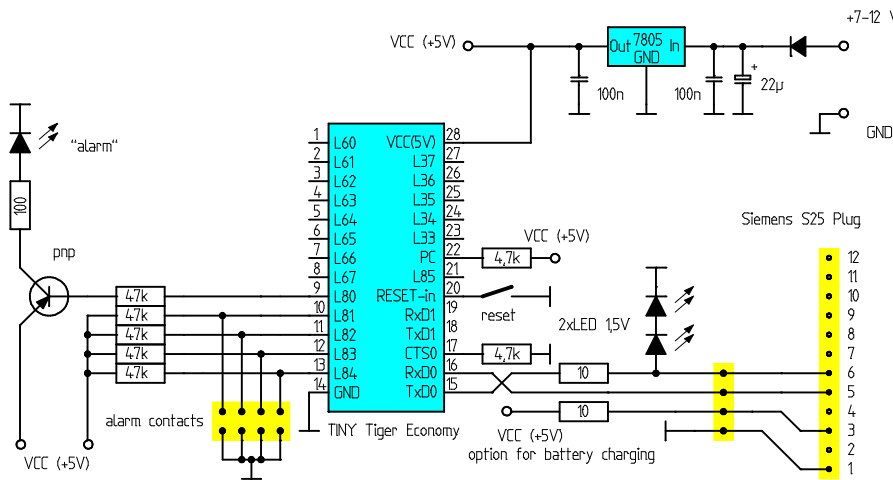

Fig. 6 Complete circuit with Tiny-Tiger[®] Economy and minimal effort
- You wish to save space and costs and use an Economy-Tiger without built in RS232-interface. Despite the limited pins the functionality is sufficient for the planned purpose. The author favors this solution, the circuit and sample programs fit in with it (Figure 6).
To operate the alarm system we use a mini circuit with Economy-Tiger. The programming of the controller takes place in the Plug-and-Play-Lab via the two adapters from Wilke Technology (BASIC-Tiger[®] to Tiny-Tiger[®] and Tiny-Tiger[®] to Economy-Tiger[®]). The serial interface SER0 operates the phone with TTL-levels. The connection takes place via a 4-pole plug and a self-made direct cable without any electronics. Port 6, as well as the two control lines L36 and L37, can be used for the connection of a (optional) display. The program HANDY_01.TIG supports the presentation via SER1 and Terminal program as well as via the LC display, if required both must be realized on the hardware side. On the other hand, if you do not need a display, you can make use of the multifunctional pins as analog inputs – useful for different warning installations with analog measurement data. We use the I/O pins L80 – L84 and possibly L85 to select different options or rather to send switching signals. The complete circuit is shown in figure 6. Even the inner storage battery can be charged via pin 3 of the mobile phone plug from our VCC through a 10 Ω resistor, the proper regulation is done in the phone itself. The system is now ready to run in continuous operation.
We have generally laid out our programs in such a way that the data transfer with the mobile phone runs on SER0. SER1 and the LC display serve as an option for observing the data transfer ("Questions" and "Answers" are additionally displayed here). For this observation there must be a provision that SER1 is equipped with the appropriate levels for the PC-connection and/or that a LC display is connected. Once you are certain that the mobile phone control is working you can certainly leave out the hard-and software for monitoring via SER1 as well as LC display if you wish to (in which case the minimal version according to the circuit in figure 6 is sufficient).